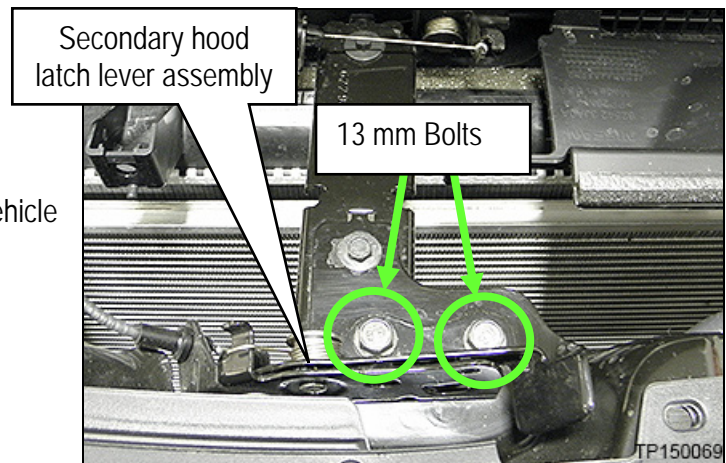

Figure 2
2. Remove the two 13 mm bolts that hold the secondary hood latch lever assembly to the vehicle (Figure 2).